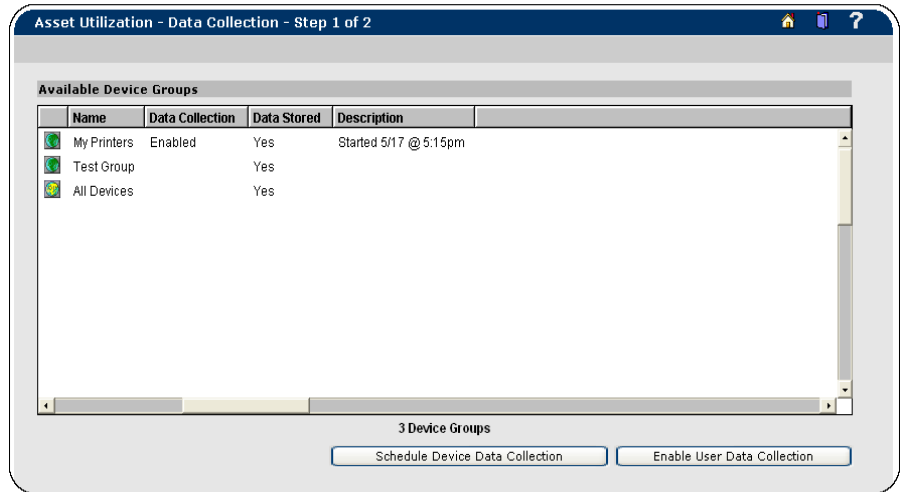
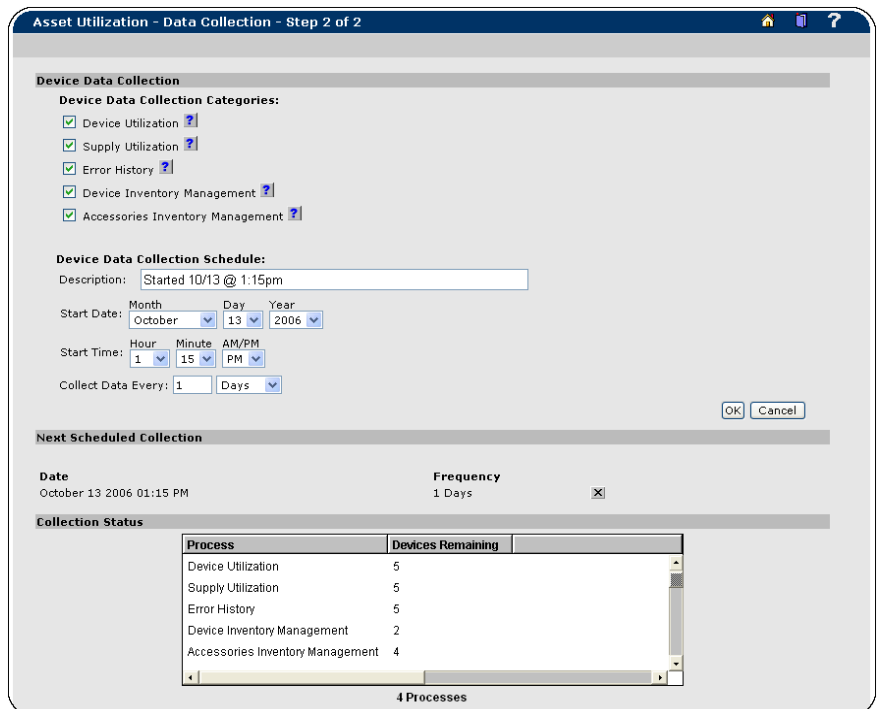

Figure 8. Create a Data Collection Schedule
Figure 9. Configure Device Data Collection
4. Click the Create New button to create a new Data Collection Schedule. This will display the Available Device Groups page, showing All Devices and any previously-defined HP Web Jetadmin Device Groups (see Figure 8).
6. To create a Device Data Collection Schedule, click the Schedule Device Data Collection button. This will display the Device Data Collection configuration page (see Figure 9), allowing you to create a schedule that will
7. To create a User Data Collection Schedule, click the Enable User Data Collection button (see Figure 8). This will display the User Data Collection configuration page (see Figure 9). Click the box for Enable User Data Collection. By clicking this box, you acknowledge that you will be collecting Personal Identifiable Information (PII). Click OK. This will allow you to capture by-user